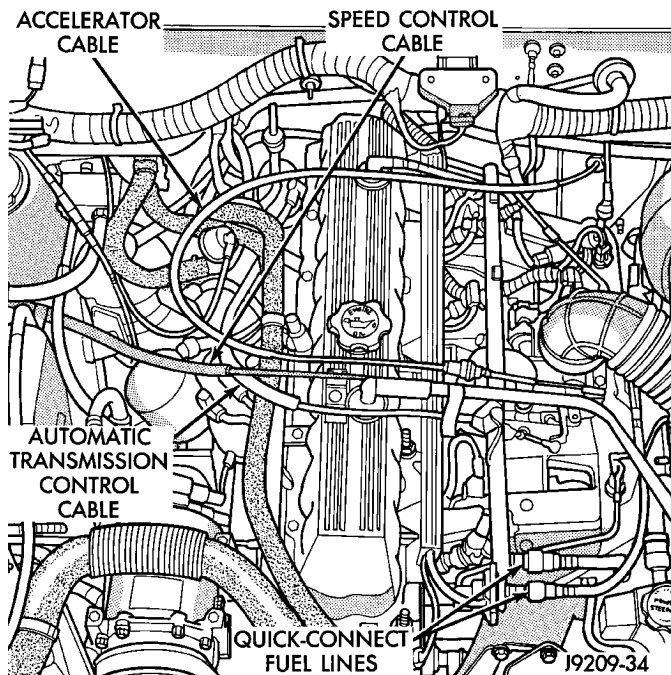

Fig. 30 Accelerator Cable, Vehicle Speed Control Cable, Automatic Transmission Control Cable & Quick-Connect Fuel Lines
(14) Disconnect the accelerator cable, transmission line pressure cable and speed control cable (if equipped) from the throttle body (Fig. 30).
(15) Remove cables from the bracket and secure out of the way.
(16) Disconnect the body ground at the engine.